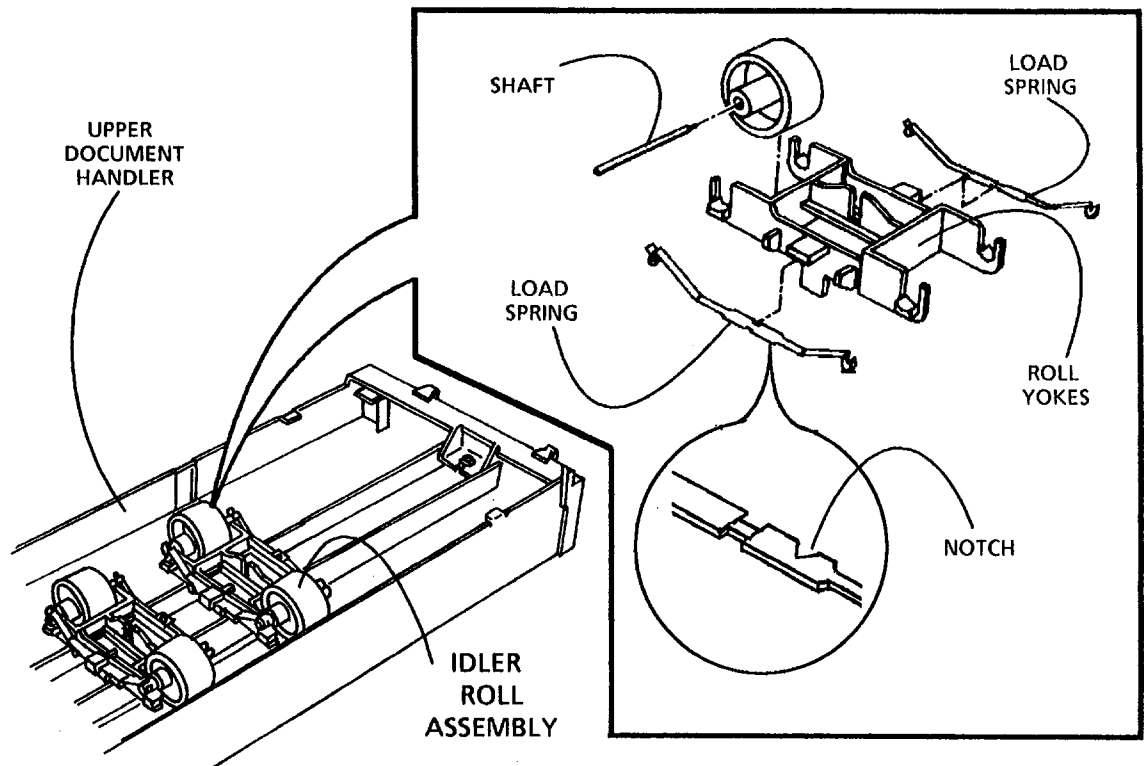

Figure 1. Location of Load Spring Notch
- Ensure that (2) "O" Rings are positioned around each actuator, and the actuators operate correctly, refer to (PL 5.2).
11. The Pinch Rolls Load Springs, Roll Yokes or associated parts may be worn, broken or not positioned correctly. Repair or replace the components as required, refer to Figure 1 and (PL 5.1).